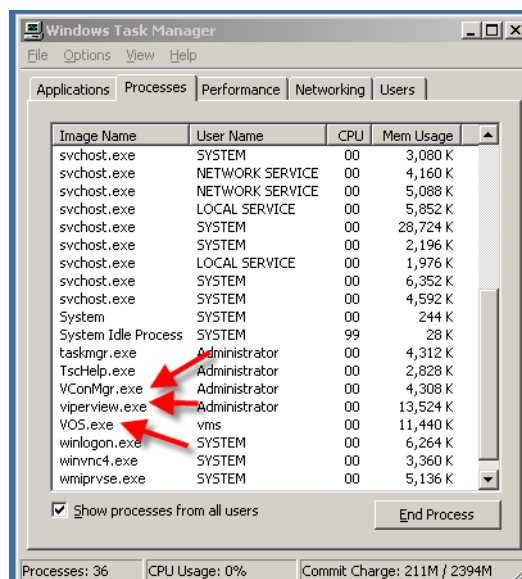

Figure 2-8 Windows Task Manager, Processes tab
2. From the **Processes** tab, scroll down the list to find the three VMS processes that are running—*VConMgr.exe*, *viperview.exe*, and *VOS.exe*, as shown in figure 2-8.